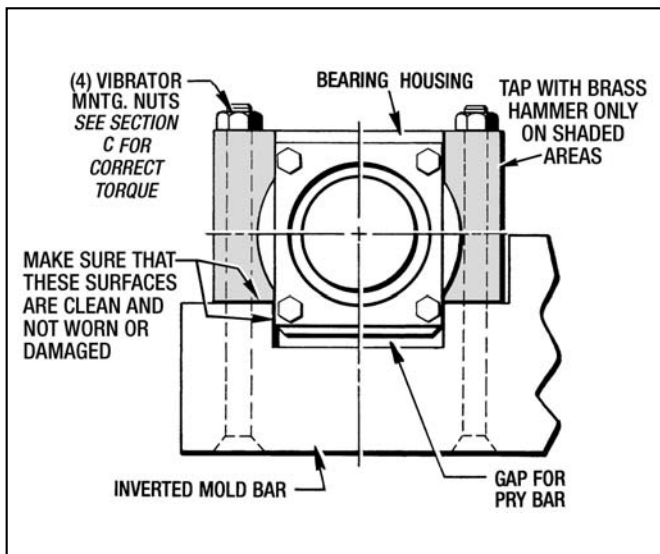

Figure 1 - Removing & Installing Vibrator Shafts
3. Break loose and remove the (2) Vibrator Mounting Bolts and Hex Nuts from each Bearing Housing.
4. Insert a pry bar into each gap and pry the Front Main Bearing Housing and the Rear Main Bearing Housing loose from the Mold Bar notches as shown in *Figure 1*.